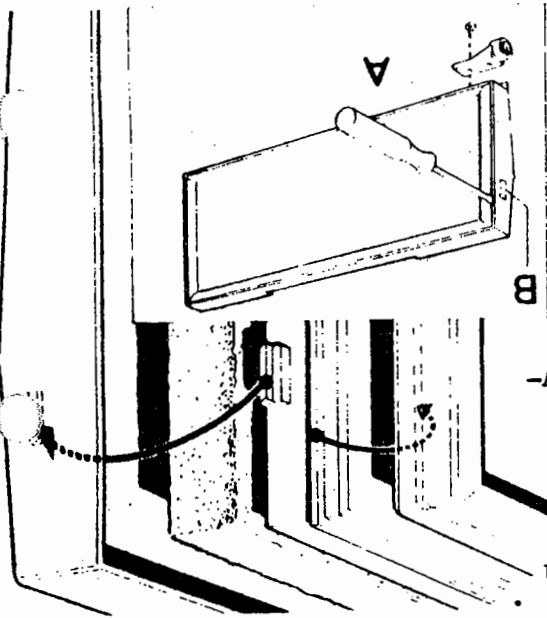

Fig. 19
- a. Remove freezer door as described above and unscrew hinge plates (A in fig. 19)